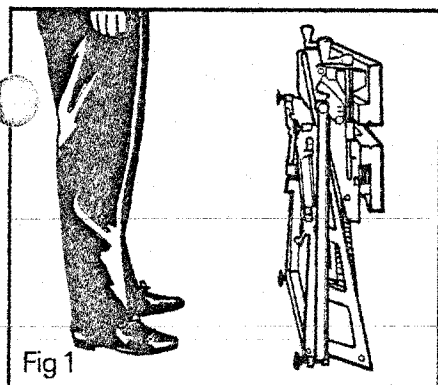

Fig 1
- 1 Start with the unit in a vertical position with the vice bars away from the body, see Fig. 1.